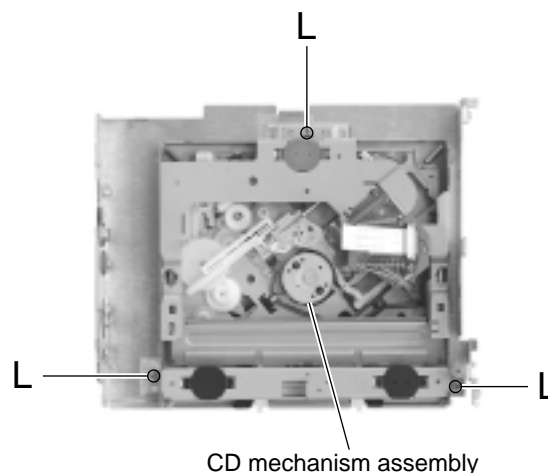

Fig.13
■ Removing the CD mechanism assembly (See Fig.13)